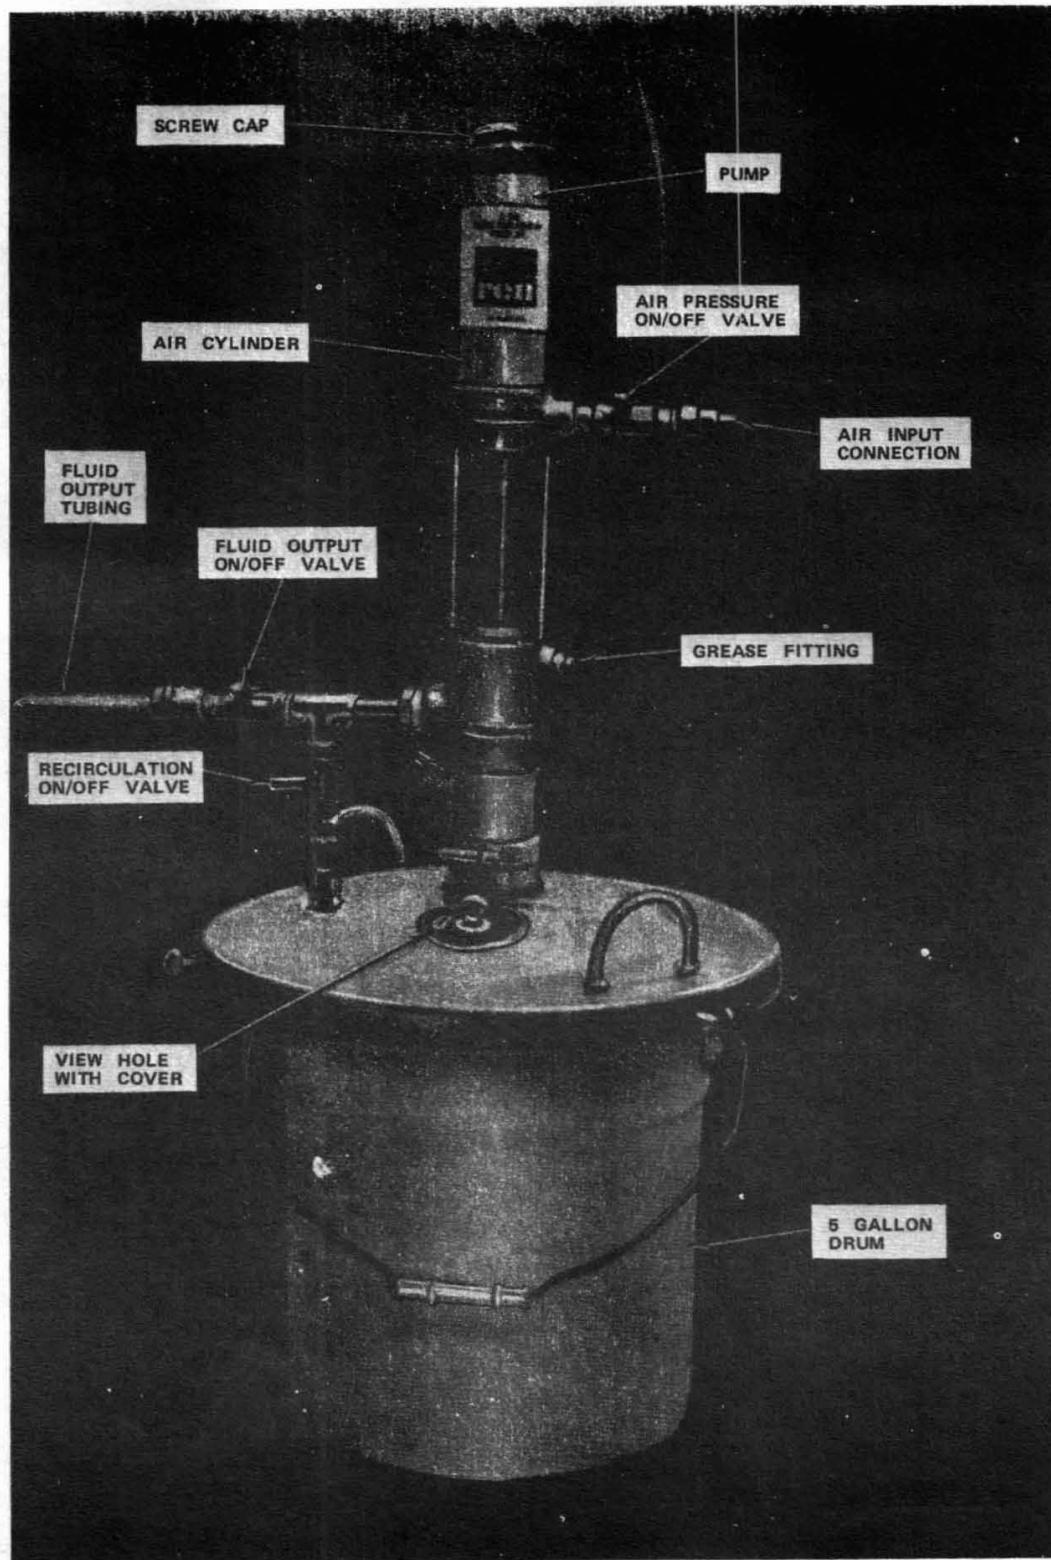

Fig. 6—G 810 REN Cable Reclamation Pump
4.03 The G 810 REN pump kit (Fig. 6) consists of a reciprocating pump, drum, lid, nylon fluid output hose (with adaptors), and a nylon recirculation hose.
4.05 Three valves are provided on the pump, one to control the input pressure, one to control the recirculation of the reclamation compound, and the third controls the material flow into the cable (see Fig. 6).